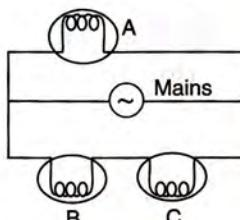

Fig. 9.12
15. Fig. 9.12 shows three bulbs A, B and C each of rating 100 W, 220 V connected to the mains of 220 V. Answer the following :